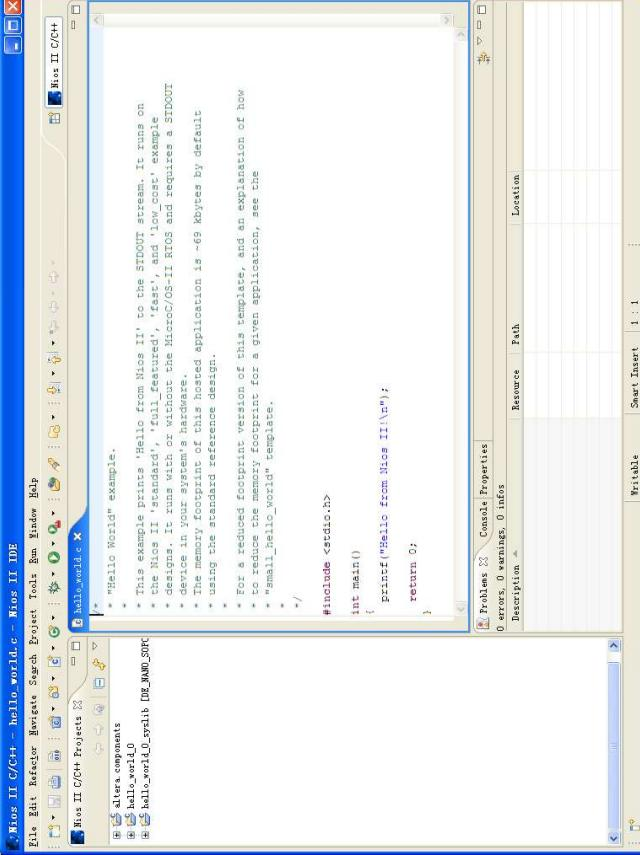

Figure 7-56 Nios II IDE C++ Project Perspective for hello\_world\_0
5. Click **Finish**. The NIOS II IDE creates the **hello\_world\_0** project and returns to the NIOS II C/C++ project perspective, as shown in Figure 7-56.